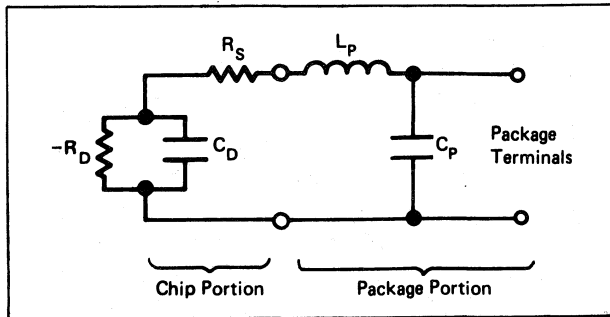

Figure 1. Equivalent Circuit of Packaged Gunn Diode
**Frequency Band.** Each package style necessarily incorporates certain parasitic reactances (see Figure 1). In general, the magnitude of these reactances is reduced with the choice of a smaller package type. Hence the more robust, larger, package styles are normally specified for operation in the lower frequency bands. The smaller, lower parasitic reactance types are used for the higher frequency bands.
The equivalent circuit of the packaged diode is shown in Figure 1. The Gunn device chip may be represented as a negative resistance in parallel with a capacitance and a small positive resistance in series with these. Additionally, when incorporated into a package structure of whatever type, a series inductance and a parallel capacitive reactance are introduced. In general, the magnitude of these parasitic reactances is reduced with the choice of a smaller package. Hence, although the larger package types are offered in the lower frequency bands, higher frequency diodes are only available in the smaller lower parasitic reactance packages.